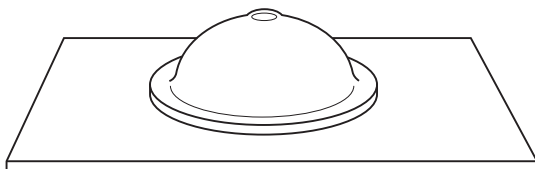

Figure C-7
- Position the bowl over the cut-out, checking for a tight fit (Figure C-7).